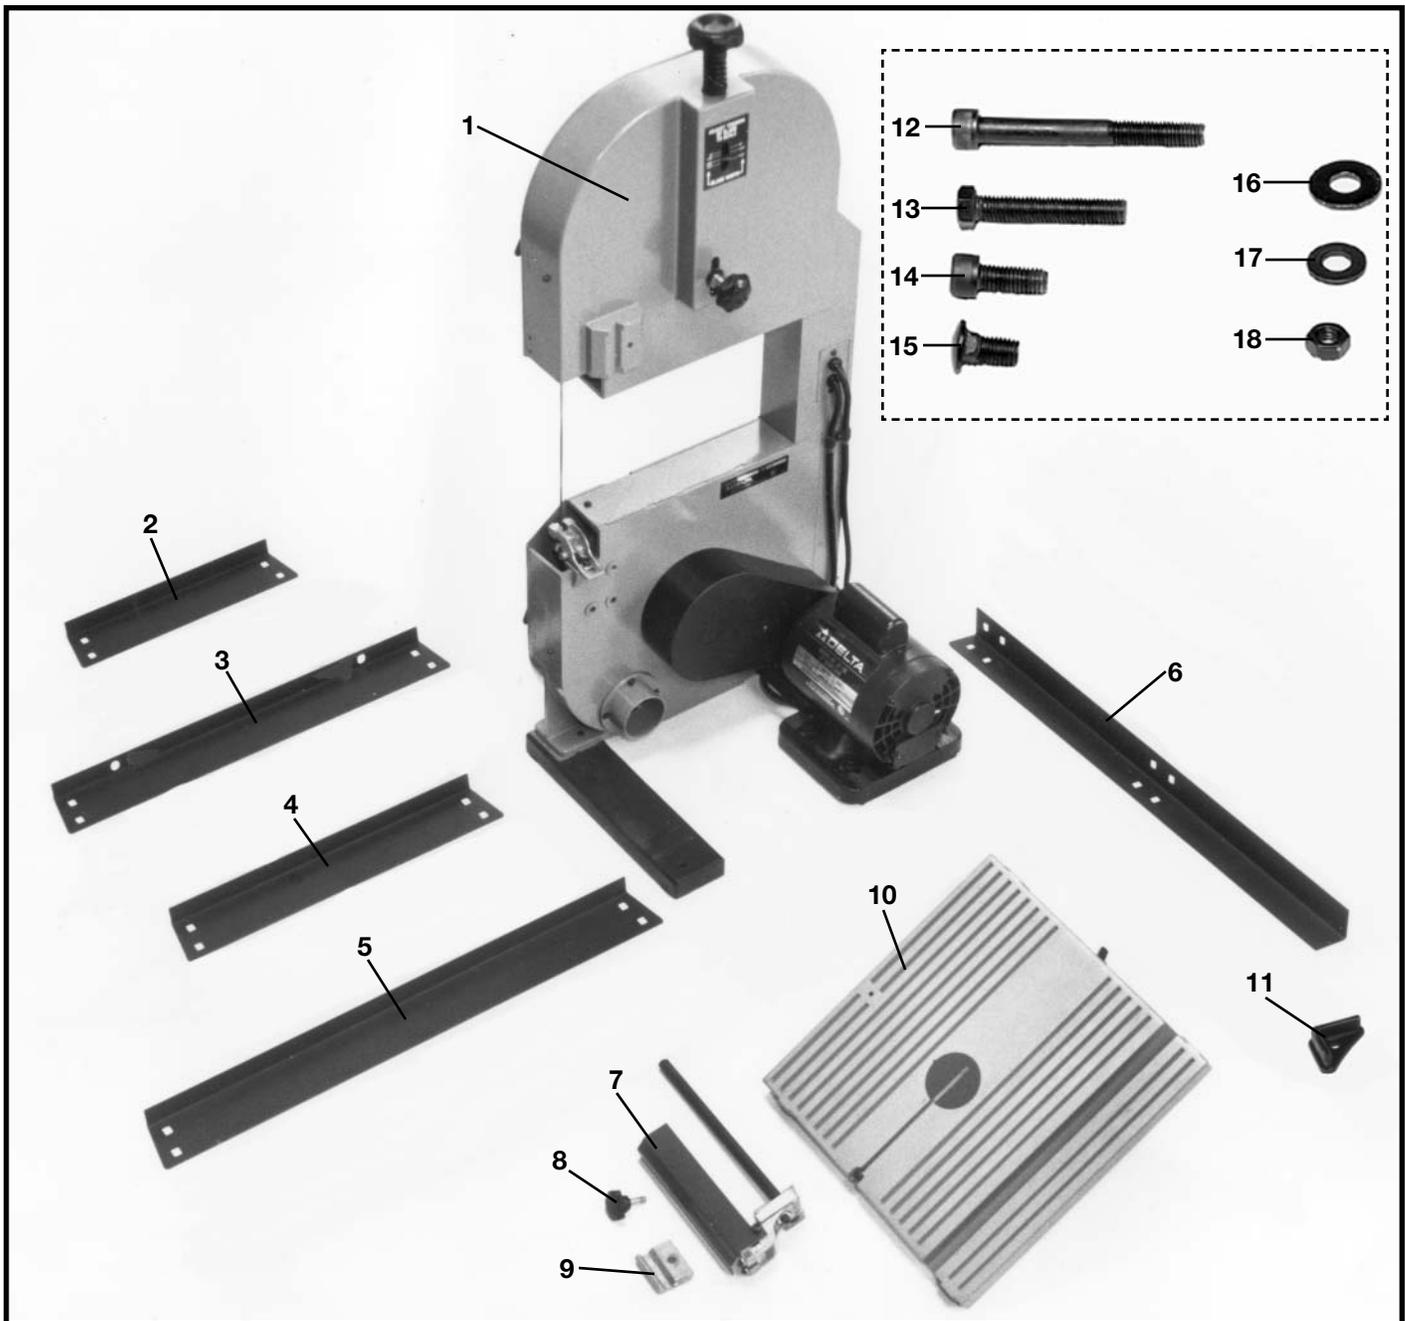
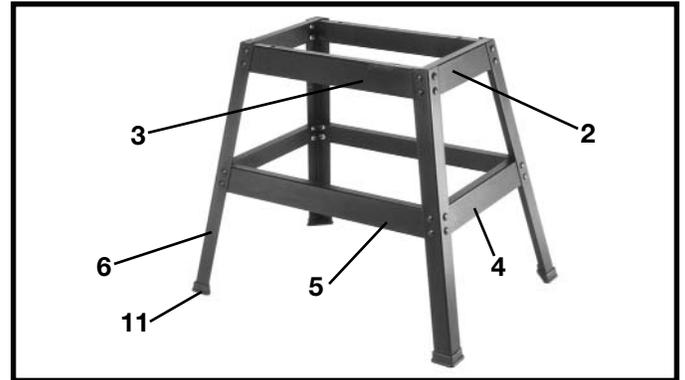

Fig. 2
Fig. 3
1. Assemble stand as shown in Fig. 3, using parts shown in Fig. 2. The braces, legs and feet are numbered the same in both illustrations. Insert the M8x1.25x16mm carriage head screws through legs and braces then place the 3/8" flat washers on the screws and secure with the M8x1.25 hex nuts. Only tighten nuts finger-tight at this time. **NOTE:** The top lips of the side braces (2) Fig. 3, must fit on top of the front and rear braces (3). The top lips of the side braces (4) Fig. 3, must fit on top of the front and rear braces (5).
2. Attach the four plastic feet (11) Fig. 3, to the bottom of each leg (6).